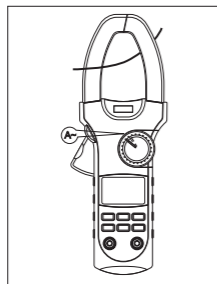

Figure 10
H. Measuring AC Current (See Figure 10)